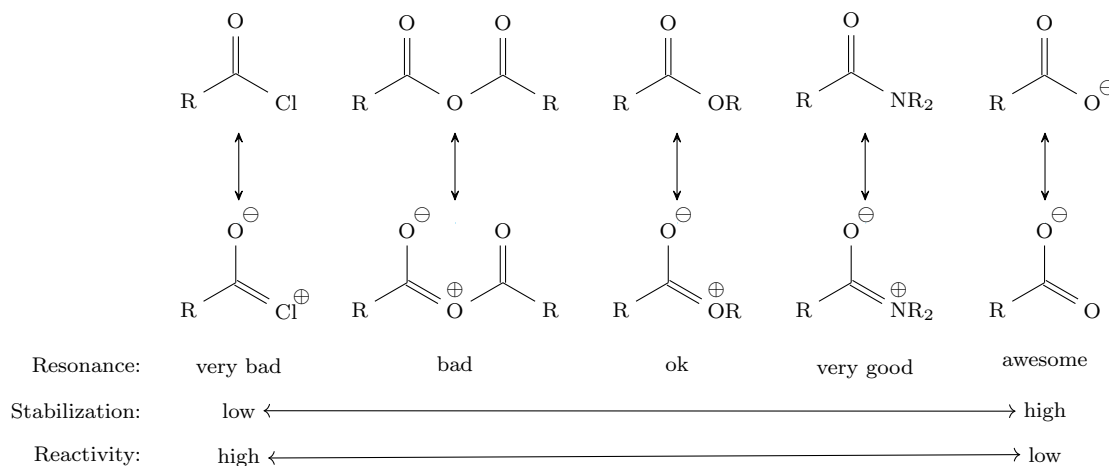

Figure 4.20: Resonance stabilization of carboxylic acid derivatives.
- From Table 4.1 and Figure 4.20, we can see that the better leaving groups form more reactive carboxylic acid derivatives, and vice versa!